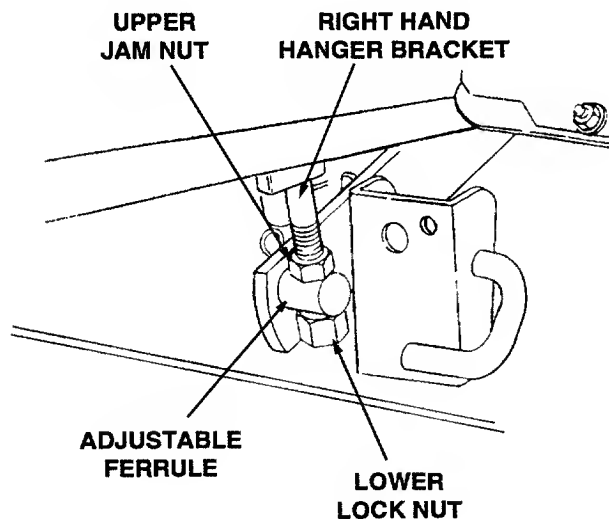

Figure 34
8. Side-to-side leveling is obtained utilizing the adjustment ferrule and right hand hanger bracket (Refer to Figure 34).
9. Loosen the upper jam nut on the hanger bracket and turn away from the adjustment ferrule. Turn the lower lock nut upward (tighten) on the threads of the hanger bracket to raise the right side of the mower deck. Turn the lock nut down (loosen) on the threads to lower the right side of the mower deck (Refer to Figure 34).